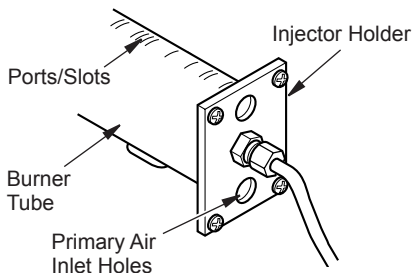

Figure 57 - Injector Holder On Outlet Burner Tube
2. Inspect burner, pilot and primary air inlet holes on injector holder for dust and dirt (see Figure 57).